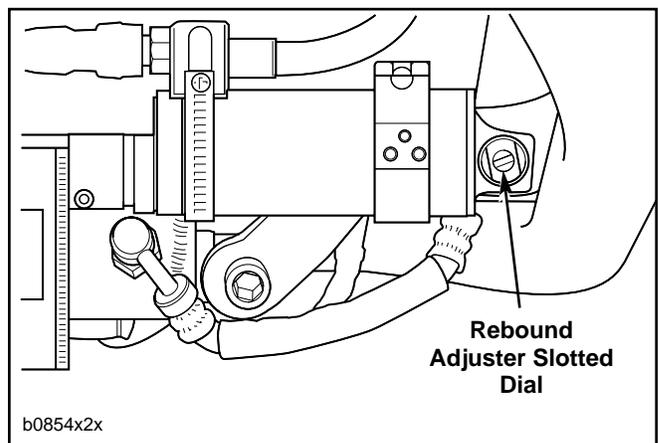

Figure 6. Rebound Damping Adjustment
12. See Figure 6. Set rebound damping using the slotted dial on the remote reservoir at the front of the shock. New factory setting is as listed below: